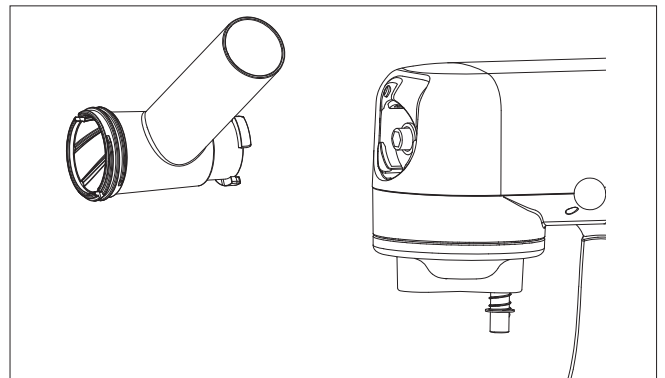

Fig. 14 – Fitting the worm housing
4. Insert the worm housing into the mincer connection (see Fig. 14).